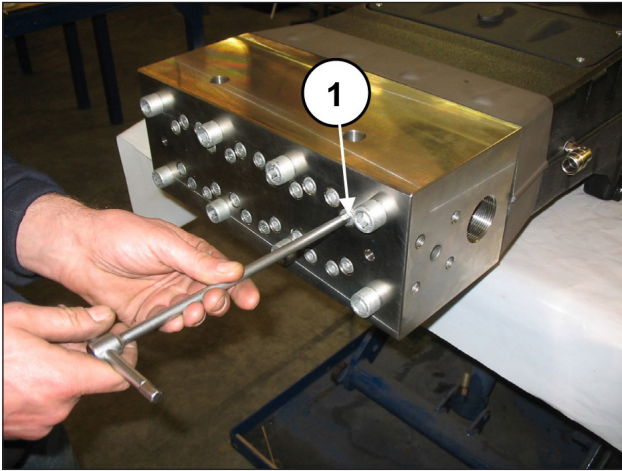
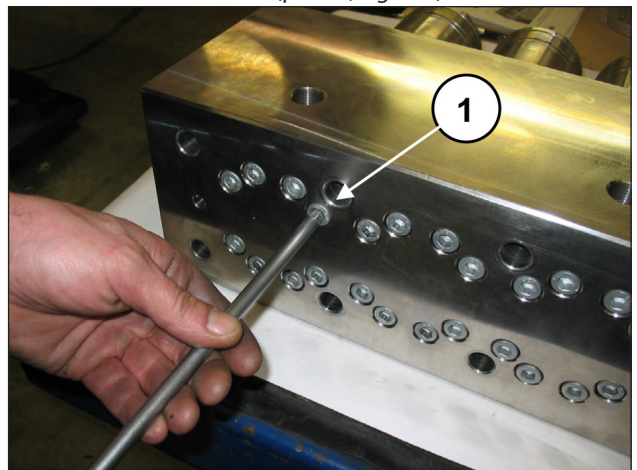
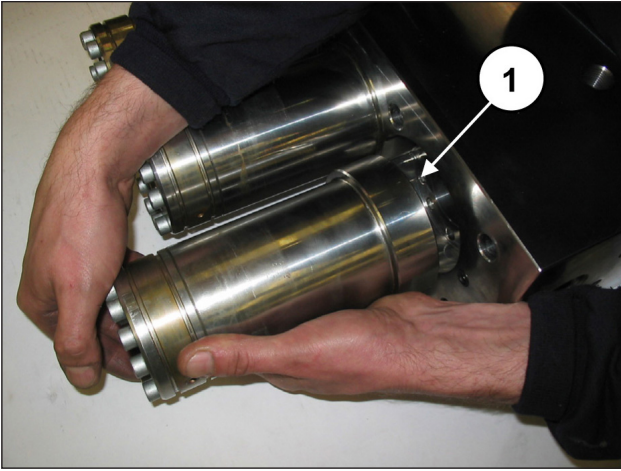

Fig. 94
Fig. 99
Fig. 100
Unscrew the M10x140 head liner fixing screws without removing them (pos. ①, Fig. 94), in such a way as to free them.
Remove the M10x140 head liner fixing screws (pos. ①, Fig. 99) and remove the liner units (pos. ①, Fig. 100).
Separate the head and the spacer for the liners from the pump casing as shown in par. 2.2.1 (from Fig. 94 to Fig. 100).